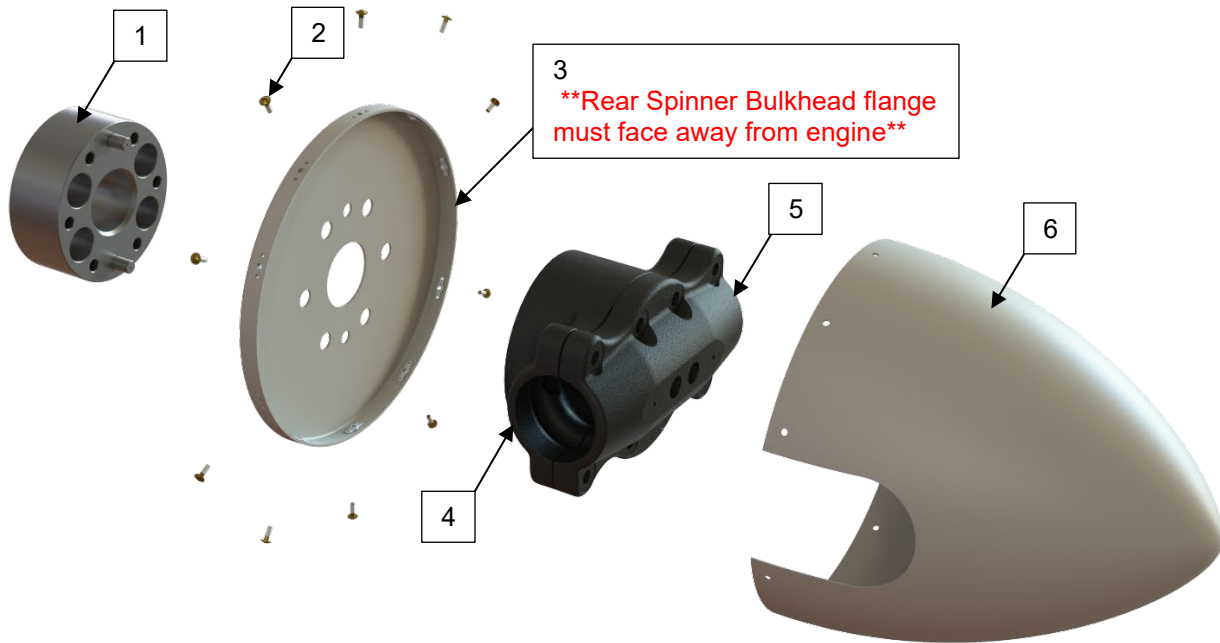
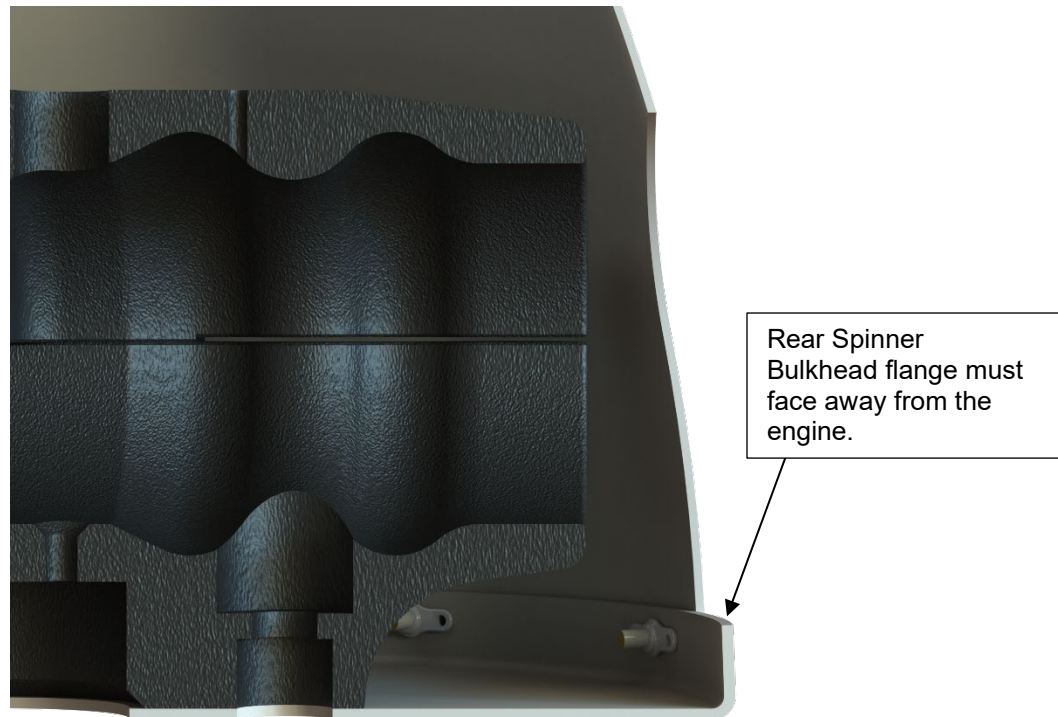

Figure 1: Spinner Assembly
Figure 2: Rear Spinner Bulkhead Section View
1. Place spacer (if required), rear spinner bulkhead and the hub mount, as shown in **Figure 1**, on the propeller mounting flange. The hub must sit flush on the mounting flange. The flange on the rear spinner bulkhead must face away from the engine as shown in **Figure 2**.